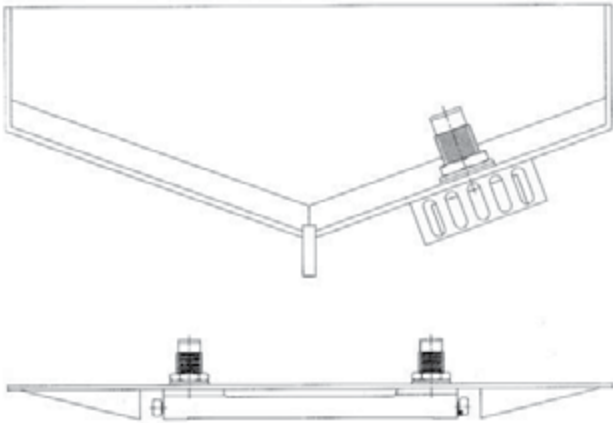

FIG. 1 External type installation with E1 OPTION end-mounted zinc anodes using fairing blocks for protection and streamlining.
- 1.1.2 Always install the unit parallel, not transverse, to the skeg or keel. See Figures 1 & 2.
1.6.5 If side plates and fairing blocks are used, make sure that the side plates are scalloped (notched) out so they will not entrap water. Fairing blocks are most effective when installed with a 4 to 1 slope. See Figures 1 & 6.